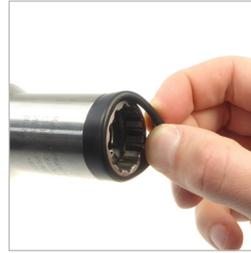

Figure 14
- ▶ Place the new label on the same place (*Figure 14*).